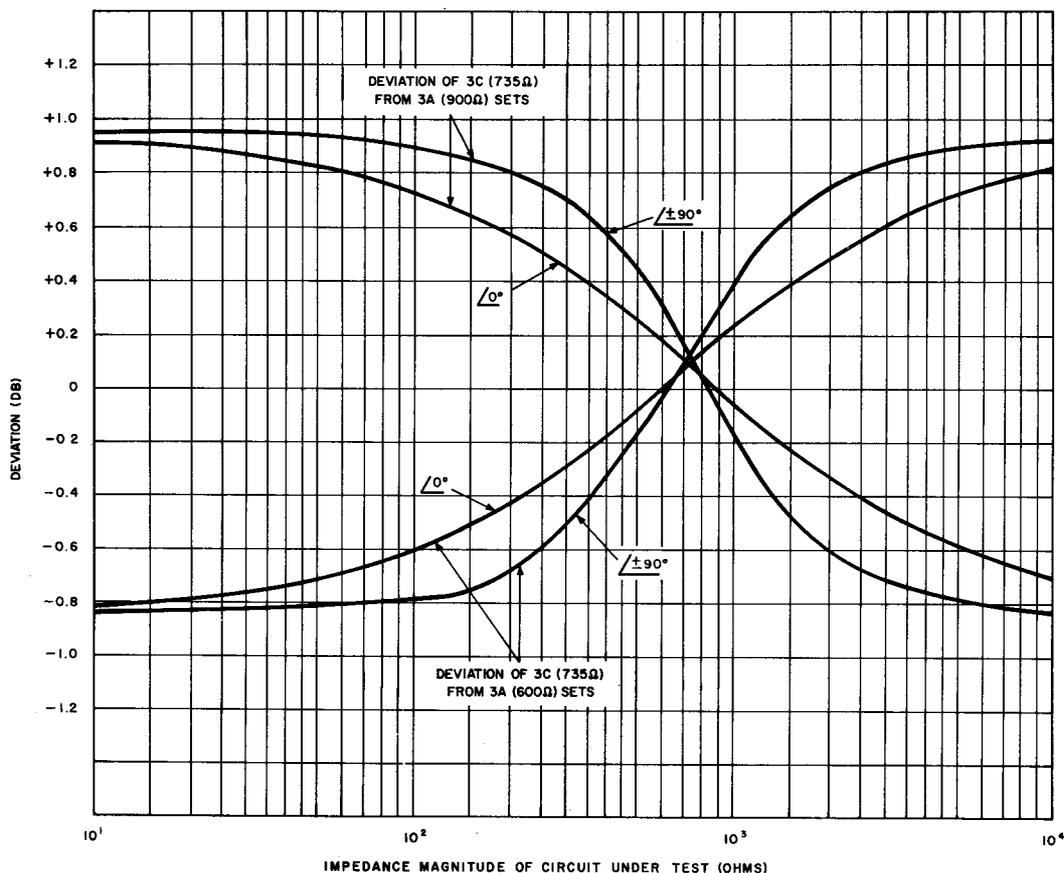

Fig. 9—Measurement Comparison Between 3C and 3A Noise Measuring Sets
4.05 When circuits being measured depart from 600 or 900 ohms, measurements with the 3C NM set differ slightly from measurements with a set whose input impedance is 600 or 900 ohms. Figure 9 shows the errors encountered when measuring such circuits by comparing the differences